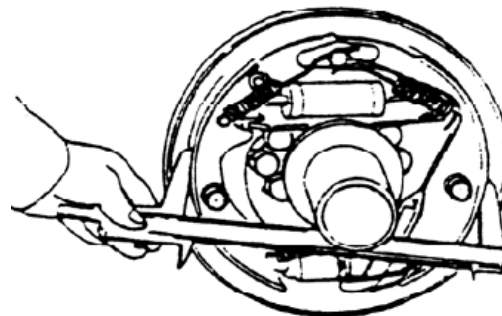

Fig. 2-24
(10) Install the brake line on the operating cylinder.
(11) Measure the inner diameter of drum and the outer diameter of brake shoe. Adjust the adjuster to obtain the 1mm difference needed between the drum inner diameter and the friction piece outer diameter. (See Fig. 2-24)